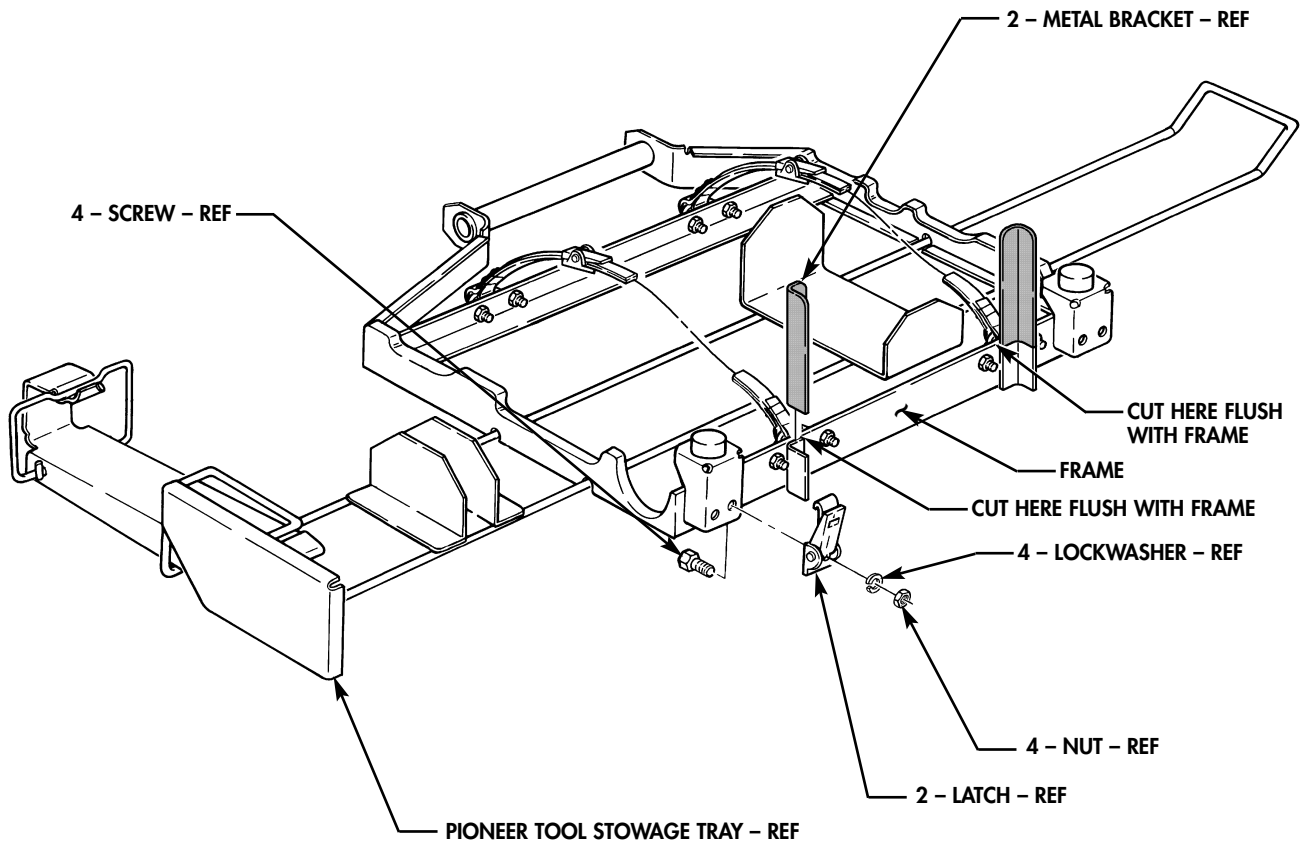

FIGURE 5
- (12) Remove four nuts, lockwashers, screws, and two latches from pioneer tool stowage tray as shown in figure 5. Discard lockwashers.
- (13) Locate, mark, and remove two metal brackets flush with frame as shown in figure 5. Prime and paint exposed surfaces. (Refer to TM 43-0139.)